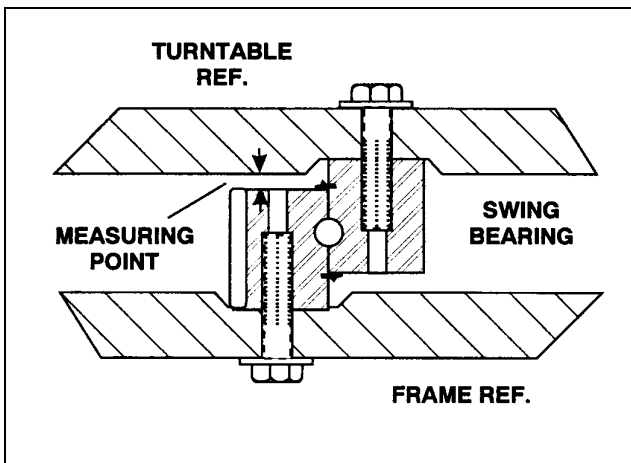

Figure 2-32. Swing Bearing Tolerance Measuring Point.
1. 30 electric - With the boom positioned over the side of the machine, the Upper Boom fully elevated and Lower Boom stowed, (See Figure 2-31 a.), using a magnetic base dial indicator, measure and record the distance between the swing bearing and turntable. (See Figure 2-32.)
35/n35 electric - With the boom positioned over the side of the machine, the Upper Boom horizontal with telescope fully extended and Lower Boom fully elevated, (See Figure 2-31 a.), using a magnetic base dial indicator, measure and record the distance between the swing bearing and turntable. (See Figure 2-32.)
40/n40/45 electric - With the boom positioned over the side of the machine, the Upper Boom horizontal with telescope fully extended and Mid/Lower Boom stowed, (See Figure 2-31 a.), using a magnetic base dial indicator, measure and record the distance between the swing bearing and turntable. (See Figure 2-32.)
2. 30 electric - At the same point, with the boom positioned over the side of the machine, the Upper Boom horizontal and the Lower Boom fully elevated, (See Figure 2-31 b.) using a magnetic base dial indicator, measure and record the distance between the swing bearing and turntable (See Figure 2-32).
35/n35 electric - At the same point, with the boom positioned over the side of the machine, the Upper Boom fully elevated and the Lower Boom horizontal, (See Figure 2-31 b.) using a magnetic base dial indicator, measure and record the distance between the swing bearing and turntable (See Figure 2-32).
40/n40/45 electric - At the same point, with the boom positioned over the side of the machine, the Upper Boom fully elevated and the Mid/Lower Boom fully elevated, (See Figure 2-31 b.) using a magnetic base dial indicator, measure and record the distance between the swing bearing and turntable (See Figure 2-32).